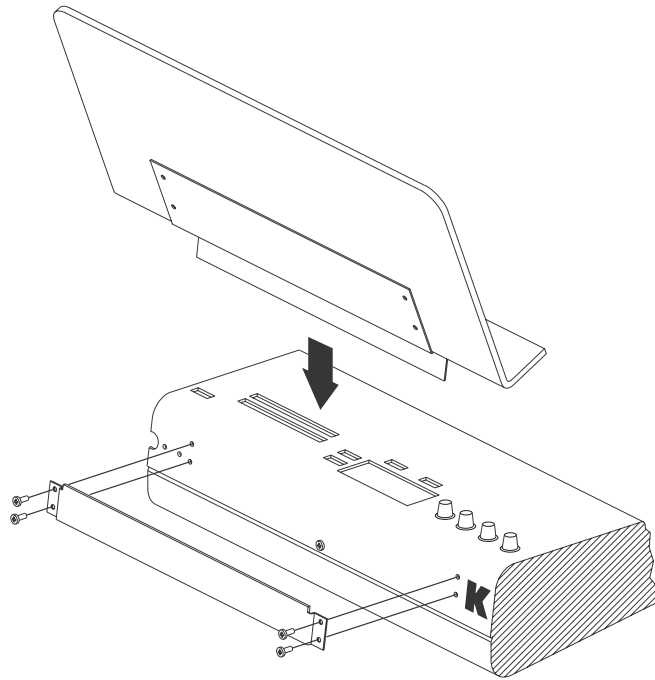

Figure 2-2 Installing the music rack
1. Remove the four screws on the rear panel of the PC1X, as shown in Figure 2-2.